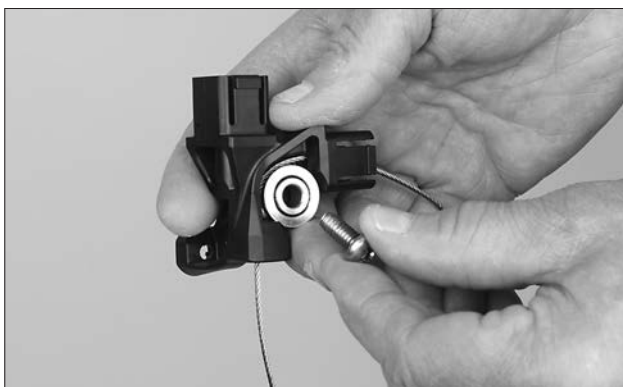

FIGURE 5-75
6. Align the bearing against the wire rope so that the bearing center and the hole in the block line up. See Figure 5-75.